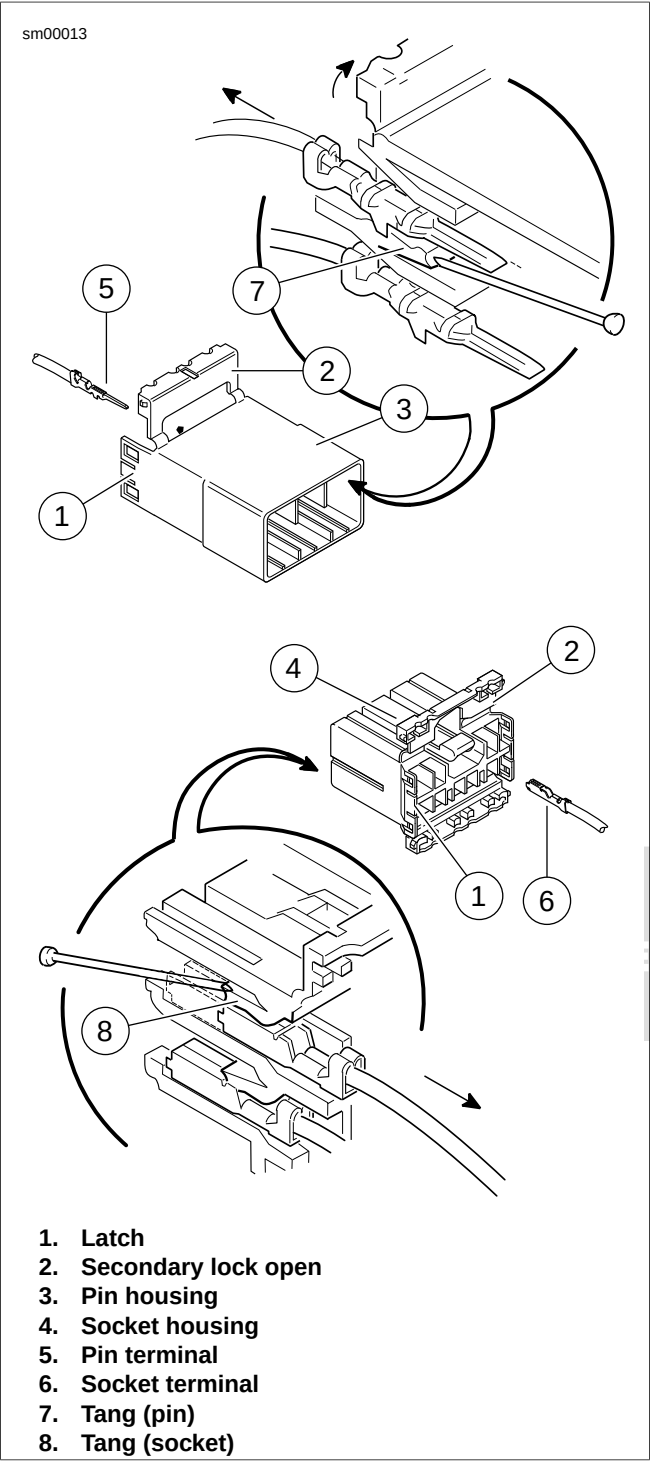
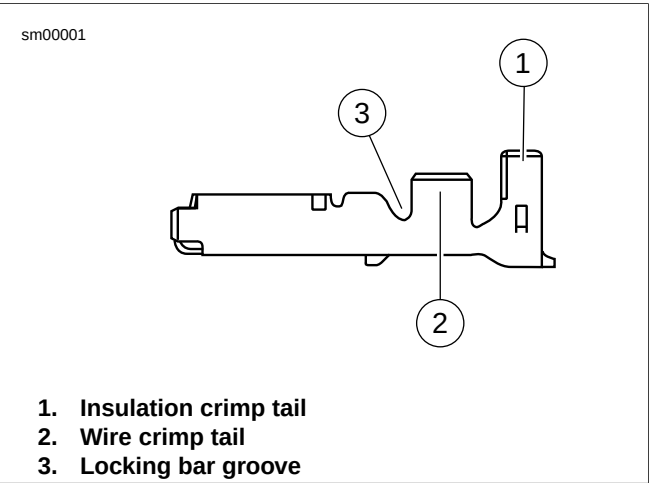

Figure A-2. AMP Multilock Connector: Socket and Pin Housings
Figure A-5. AMP Multilock Connector: Socket Terminal
1. See Figure A-2. Bend back the latch (1) to free one end of secondary lock (2) then repeat on the opposite end. Hinge the secondary lock outward.
- 2. See Figure A-2 and Figure A-5. Select the pin/socket terminals from the parts catalog and identify the insulation crimp tails (1) and the wire crimp tails (2) and the groove for the crimp tool locking bar (3).
See Figure A-2 and Figure A-5. Hold the terminal with the insulation crimp tail (1) facing up. The tool will hold the terminal by the locking bar groove (3) and crimp the wire crimp tail (2) around the bare wire of the stripped lead and the insulation crimp tail around the insulation.